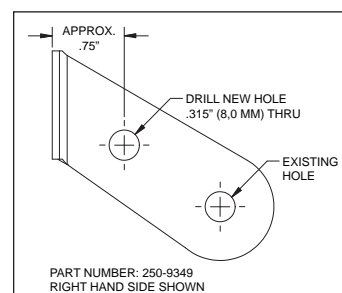

Figure 4. Bracket Modification CRZ Only
• **NOTE:** CRZ only. A new .315" hole needs to be drilled in the hose bracket (P/N 250-9349/50) as shown in Figure 4.